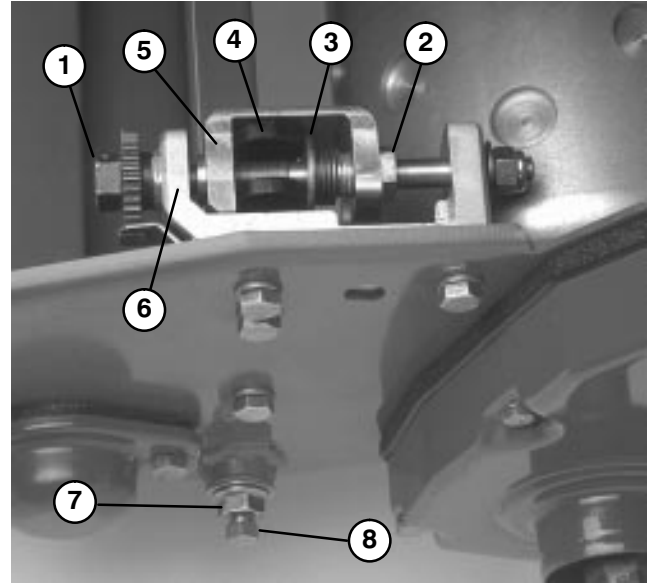

Figure 44
1. Turn bedbar adjuster screw, counterclockwise, until channel bottoms out in adjuster frame (Fig. 44).
2. Using a $7/8$ " standard wrench, back out the spring tension screw, until the thrust washer is no longer tensioned against the bedbar (Fig. 44).
3. On each side of the machine, loosen the jam nut securing the bedbar bolt (Fig. 44).
4. Remove each bedbar bolt allowing bedbar to be pulled downward and removed from machine. Account for (2) nylon and (2) stamped steel washers on each end of bedbar (Fig. 44).